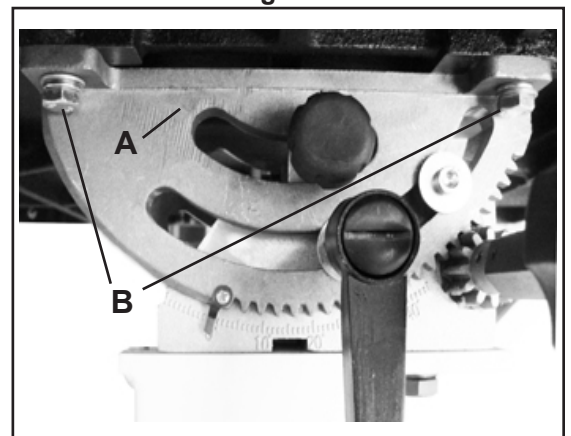

Figure 8
With the help of another person, lift the work table onto the trunnion (A-Fig.8).
Mount the work table to the trunnion using the supplied (4) hex bolts, (4) lock washers and (4) washers (B-Fig.8).